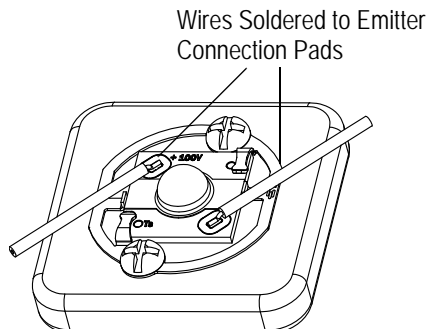

Figure 3
1. A thermal interface material (TIM) with a maximum thickness of 0.25 must be applied to the emitter area of the cooling device. For acceptable thermal interface materials, contact Philips Lumileds Lighting Company. See Figure 3, Detail A.
2. The emitter must be placed over the TIM on the cooling device. See Figure 3, Detail B.
3. The holder must be placed over the emitter so that the emitter is within the LED alignment features, and the holder mounting holes align with the holes of the cooling device. See Figure 3, Detail B.
4. The customer-supplied screws must be threaded through the screw holes of the holder and into the holes of the cooling device. The screws must be tightened to a torque between 0.28 and 0.45 N [2.5 and 4.0 in-lb]. See Figure 3, Detail B.
5. The wires must be soldered to the emitter connection pads according to the requirements of Philips Lumileds Lighting Company. See Figure 3, Detail C.